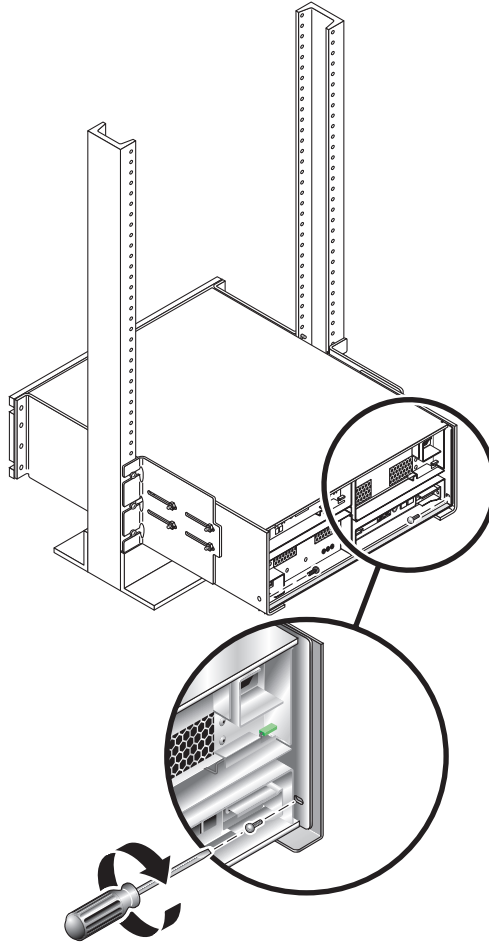

FIGURE C-8 Securing the Tray to the Back of the Rack
6. At the back of the tray, make a final adjustment to the rail lengths to align the back mounting points (FIGURE C-8) on the rail and array.
7. At the back of the tray, use the flathead screwdriver to install and tighten two 6-32 flat-head screws (one per side) through the back mounting points (FIGURE C-8).